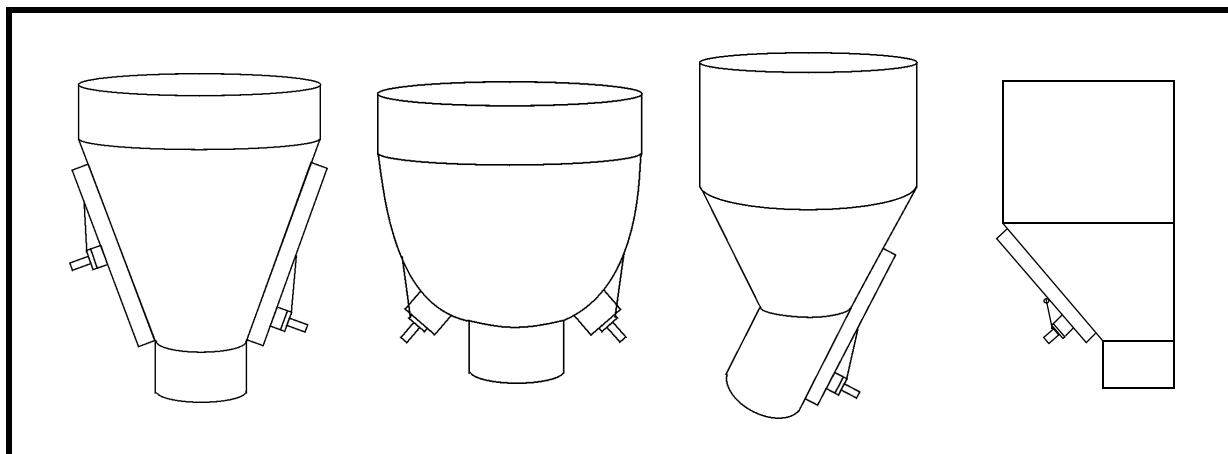

Figure 1. Locating Impactor on Structure
See Figure 1. Locate impactor in lower 1/4 to 1/3 of structure slope length. If second impactor is required, mount 180° from first impactor and halfway up slope.
- b. Locate plate so that impactor can be positioned as shown in Figure 1.
- a. Locate channel so that impactor can be positioned as shown in Figure 1.